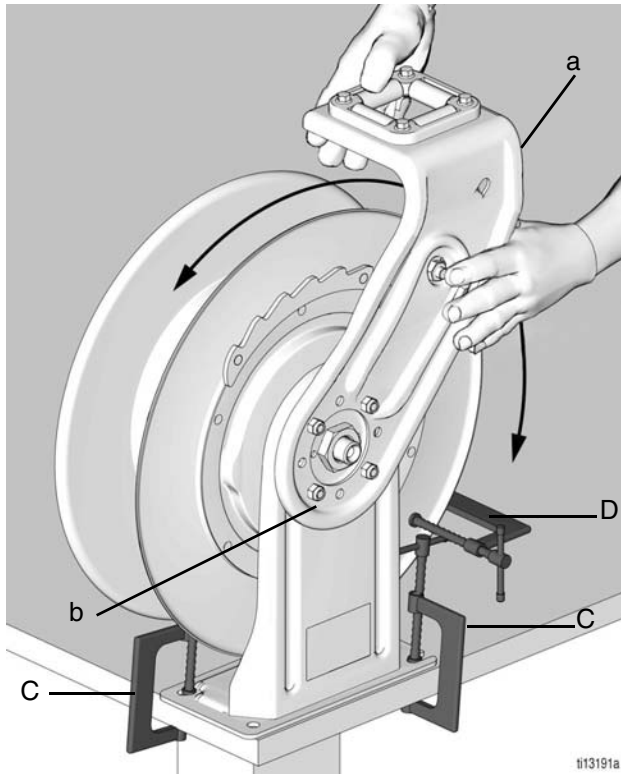

FIG. 6
- a. Secure the reel to a solid surface with C-clamps (C) (FIG. 6).
- b. Attach a C-clamp (D) to the reel flange to prevent the reel from unintentionally becoming unlatched and spinning freely (FIG. 6).